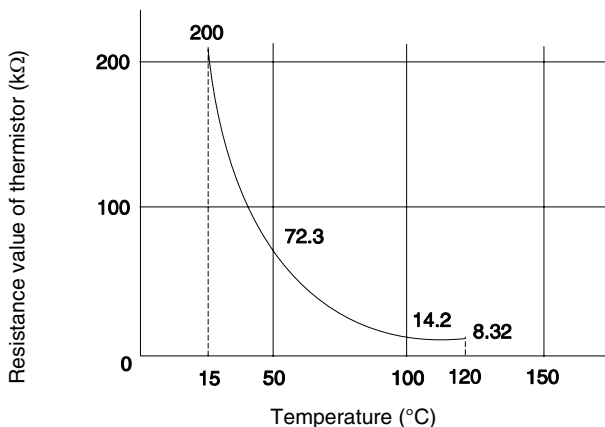

Fig. 10.1. Resistance values of the thermistor for overheating protection of the discharge gas
- If the temperature of the upper part of the compressor exceeds 132°C for 10 minutes, the compressor will stop. Even if an electronic expansion valve opens in that situation, the compressor will also stop. This way, the compressor is protected. Resistance values of the thermistor are shown in Fig. 10.1.